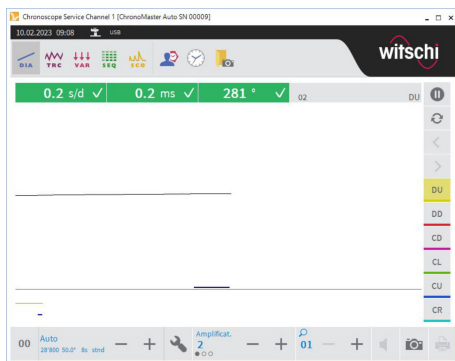

Fig. 17: Automatic start to the measuring procedure
- The measuring procedure starts automatically (Fig. 17).